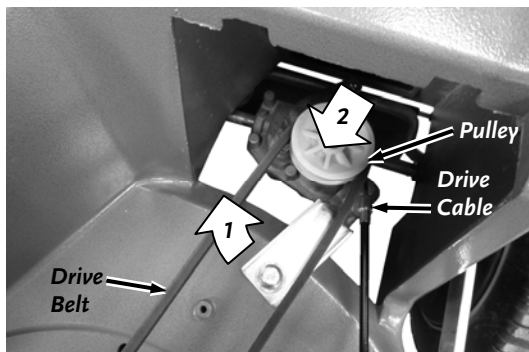

Figure 22
3. Slide the Transmission Bracket over (step 1) so the Transmission can be tilted forward (step 2) to allow the Belt to be removed from the pulley (Figure 22).